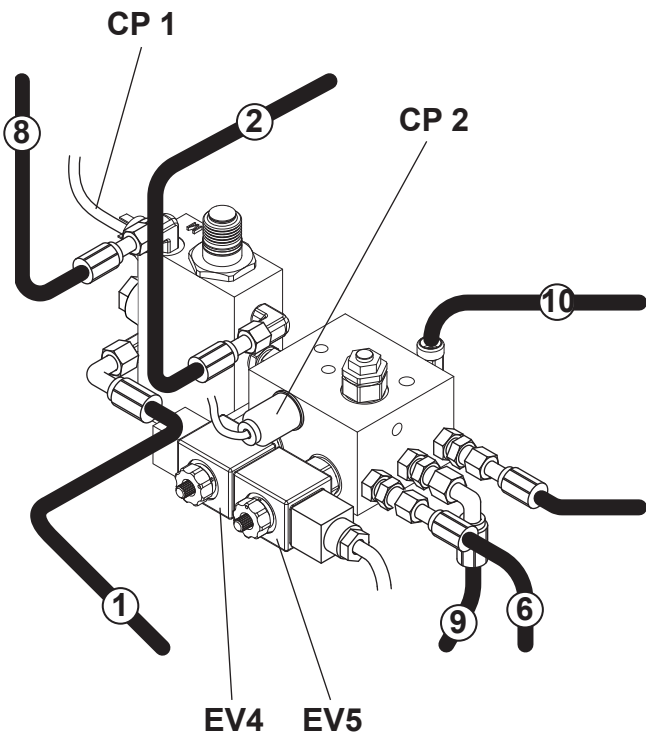

Fig. 14
Collegare i cavi elettrici presenti centralina alle elettrovalvole EV4-EV5 e ai pressostati CP1-CP2 (fig. 14).
- Connect the drain pipes (4 and 5) to the control unit by means of pipe (7).
- Fill the tank (11) with ESSO NUTO H32 oil or equivalent (Qt.).
- Connect the cables in the control unit to the solenoid valves EV4, EV5, to the pressure gauges CP1, CP2 (fig. 14).
Die im Schaltschrank vorhandenen Kabel an die Elektroventile EV4, EV5, an die Druckwächter CP1, CP2 und die Polung berücksichtigen (fig. 14).
Connecter les câbles du pupitre de commande aux électrovalves EV4, EV5, aux pressostats CP1, CP2 (fig. 14).
Conecte los cables situados en el panel de mando a las electroválvulas EV4, EV5, a los presostatos CP1, CP2 (fig. 14).